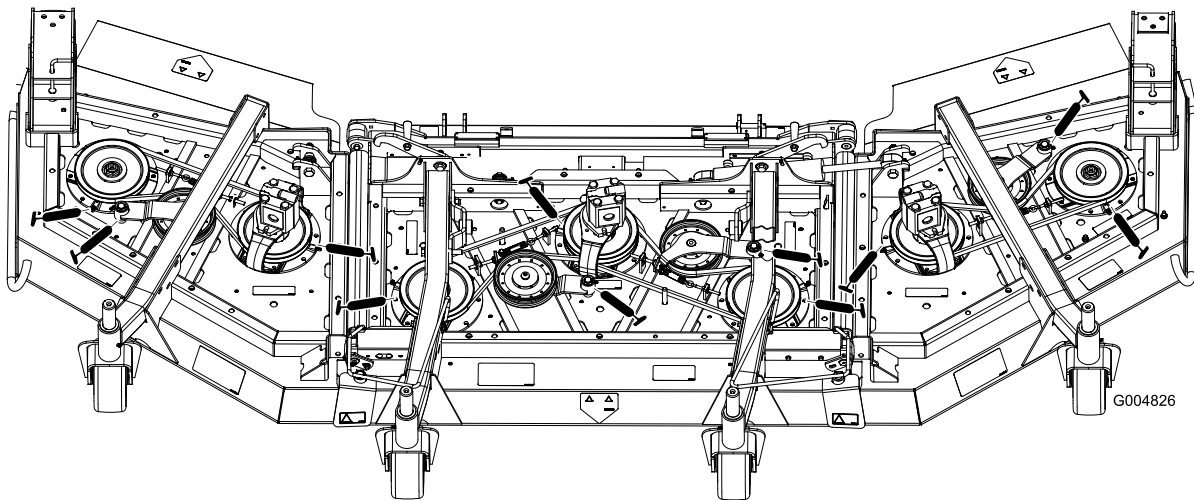

Figure 70
- 3 spindle-shaft bearings—located under the pulley (Figure 70)
- 2 idler-arm-pivot bushings (Figure 70)